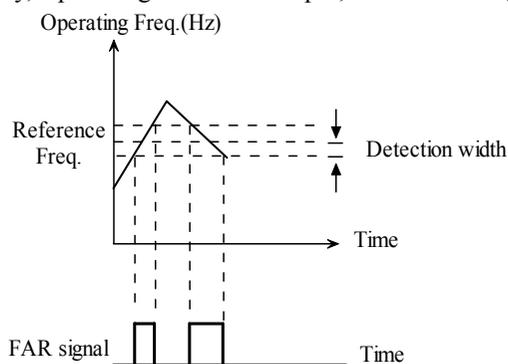

Fig. 5-3-8 FAR detection diagram
- ◆ This function used to adjust FAR detection bandwidth, when the output frequency reaches to the reference frequency. The adjusted range is from 0 to  $\pm 10.00$  Hz of reference frequency. If the inverter's output frequency is within the detection width of reference frequency, a pulse signal will be output, as shown in Fig. 5-3-8.